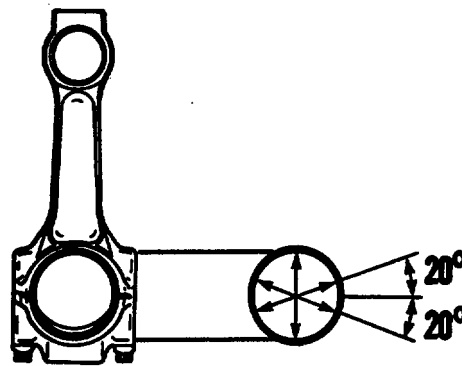

FIGURE 4-68. Connecting Rod Bore Measurement.
(9) Use a dial bore indicator. Measure the inner diameter of the connecting rod bearing bore. Measure at 90 degrees from the parting line and within a 20-degree arc from each side of the parting line (FIG. 4-68).